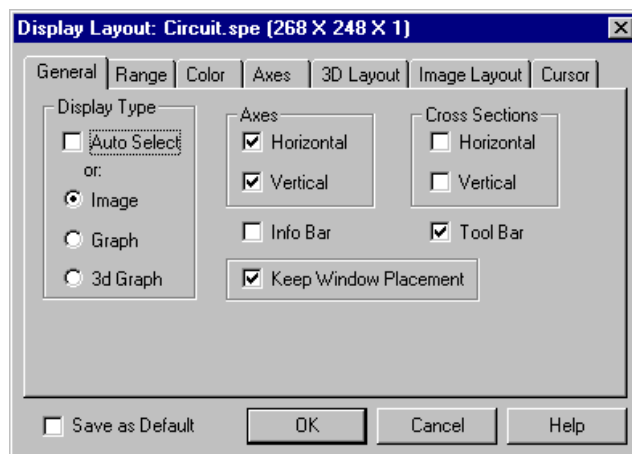

Figure 79. Display Layout dialog box
4. Select Layout on the Display menu. The Display Layout dialog box will open as shown in Figure 79.